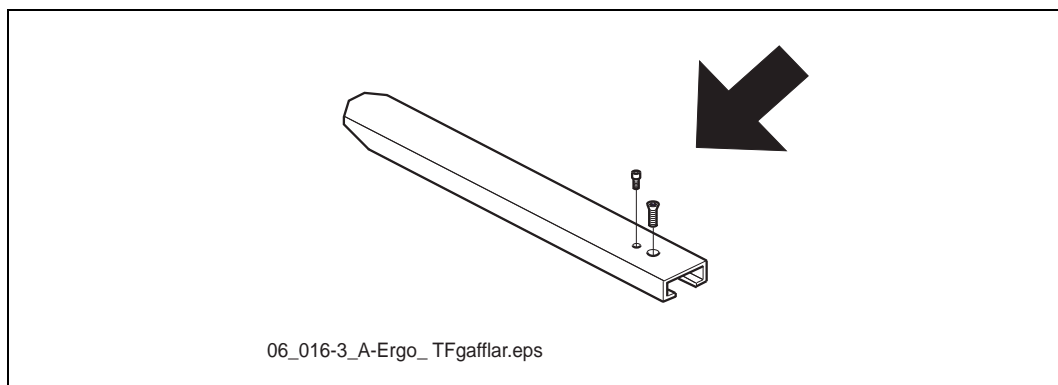

Figure 6.31 Fork attachment
7. Unscrew the screws on the forks and pull off the forks, see figure 6.31.